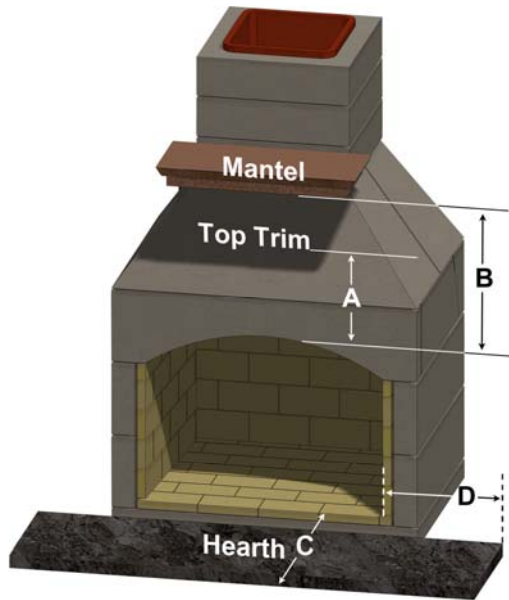

Figure 3. Clearances (Use with Table 2)
**Table 2: Clearances (See Figure 3)**
Select a location in the home plans or outdoor living area where all the minimum distances, as shown in Table 2 and Figure 3 can be met. Proceed as follows. Numbers in ( ) are item numbers from Table 1 and Figure 2. Ensure the base on which the fireplace is to be installed is a solid and level foundation and is composed of non-combustible material, such as concrete.
Ensure the Table 2 and Figure 3 clearances and distances are maintained. Ensure that the hearth and flooring under and in front of the hearth are made of fully non-combustible materials, not just a non-combustible floor covering.
If installing a mantel and side trim, particularly if it is wood or other combustible materials, ensure the minimum distances shown in Table 2 and Figure 3 are met.